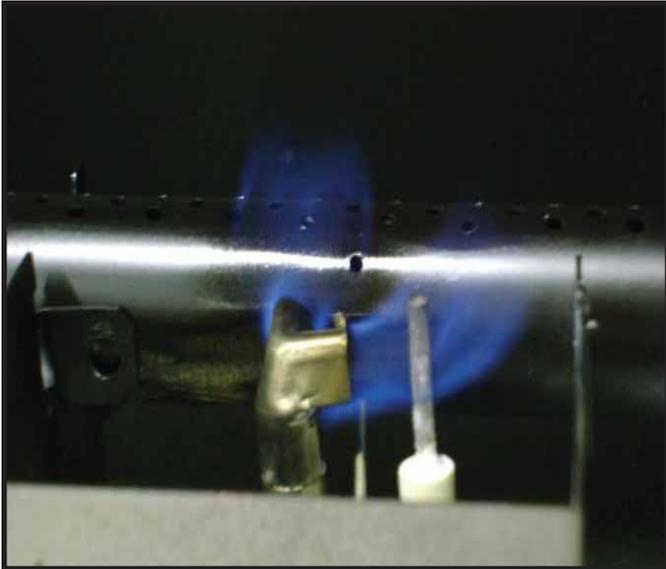

Figure 12.1 IPI Pilot Flame Patterns
- Pilot flame should be as shown in Figure 12.1.